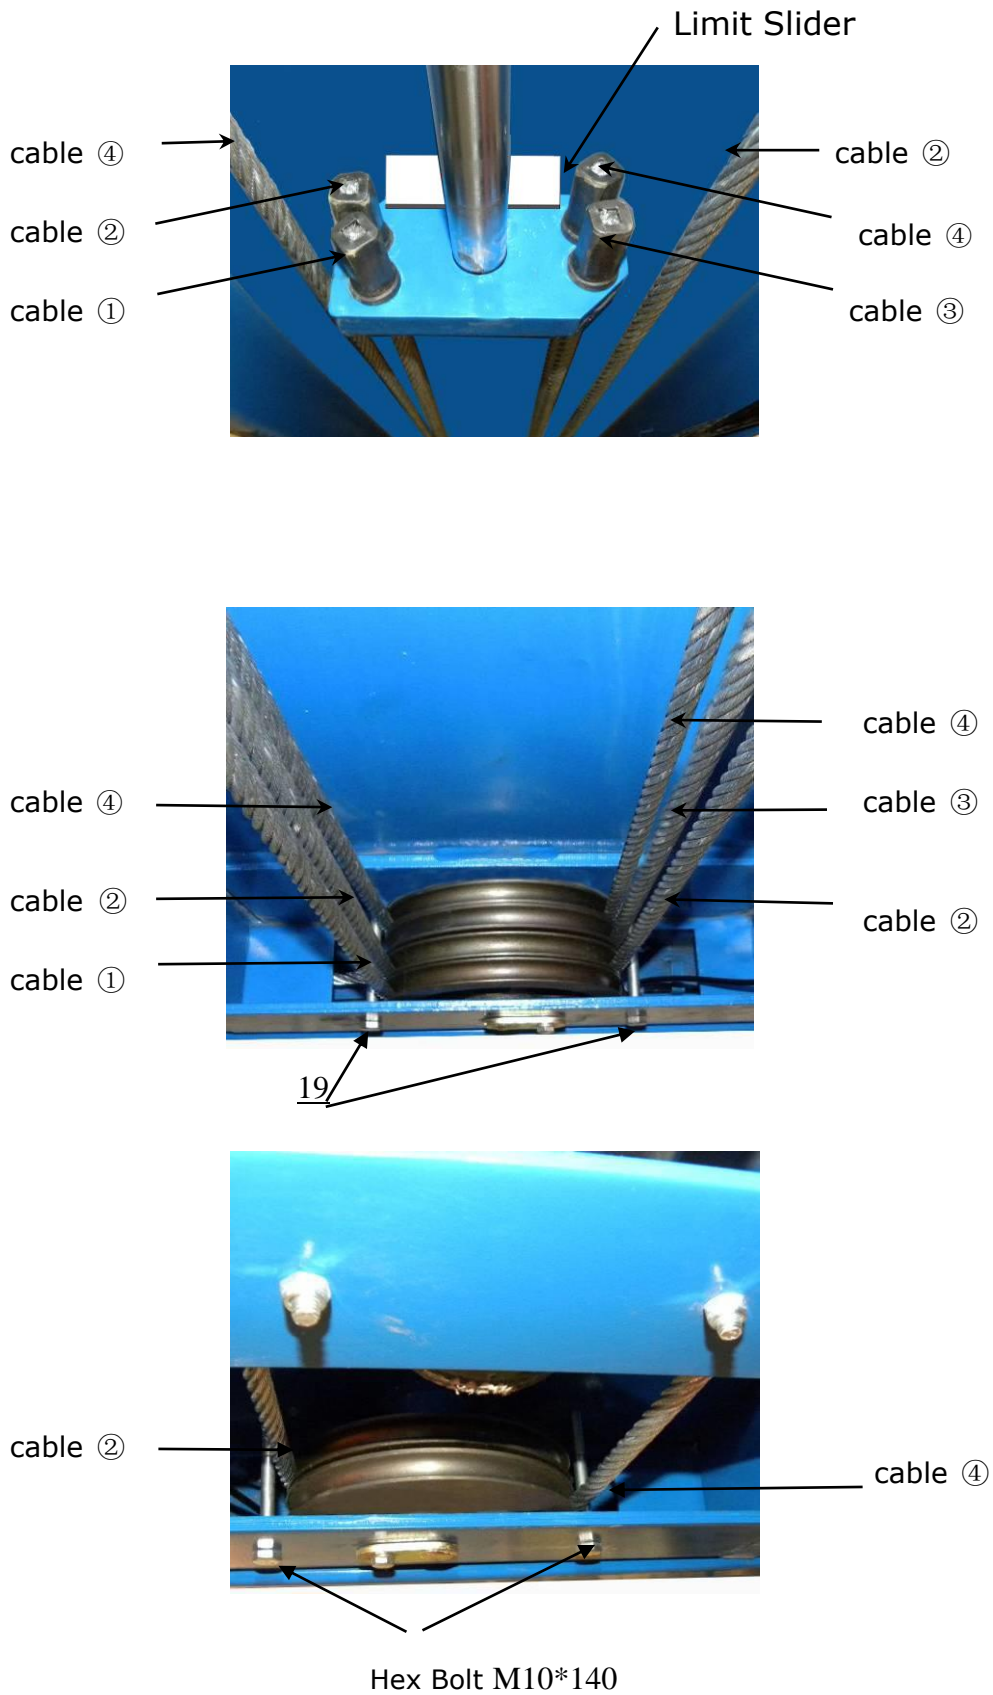

Fig. 23
3. After cables pass through the pulleys under the platform, installing the Slack-cable bolts No.19 (See Fig. 23).